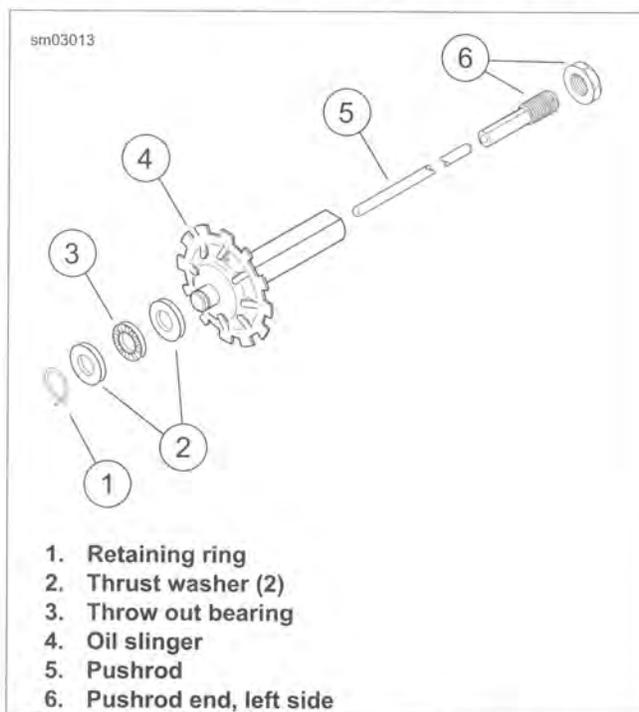

Figure 6-36. Pushrod Assembly: Cable Clutch
9. See Figure 6-36. Install pushrod assembly (items 2-5) in mainshaft hole. Secure with **new** retaining ring (1) if removed.